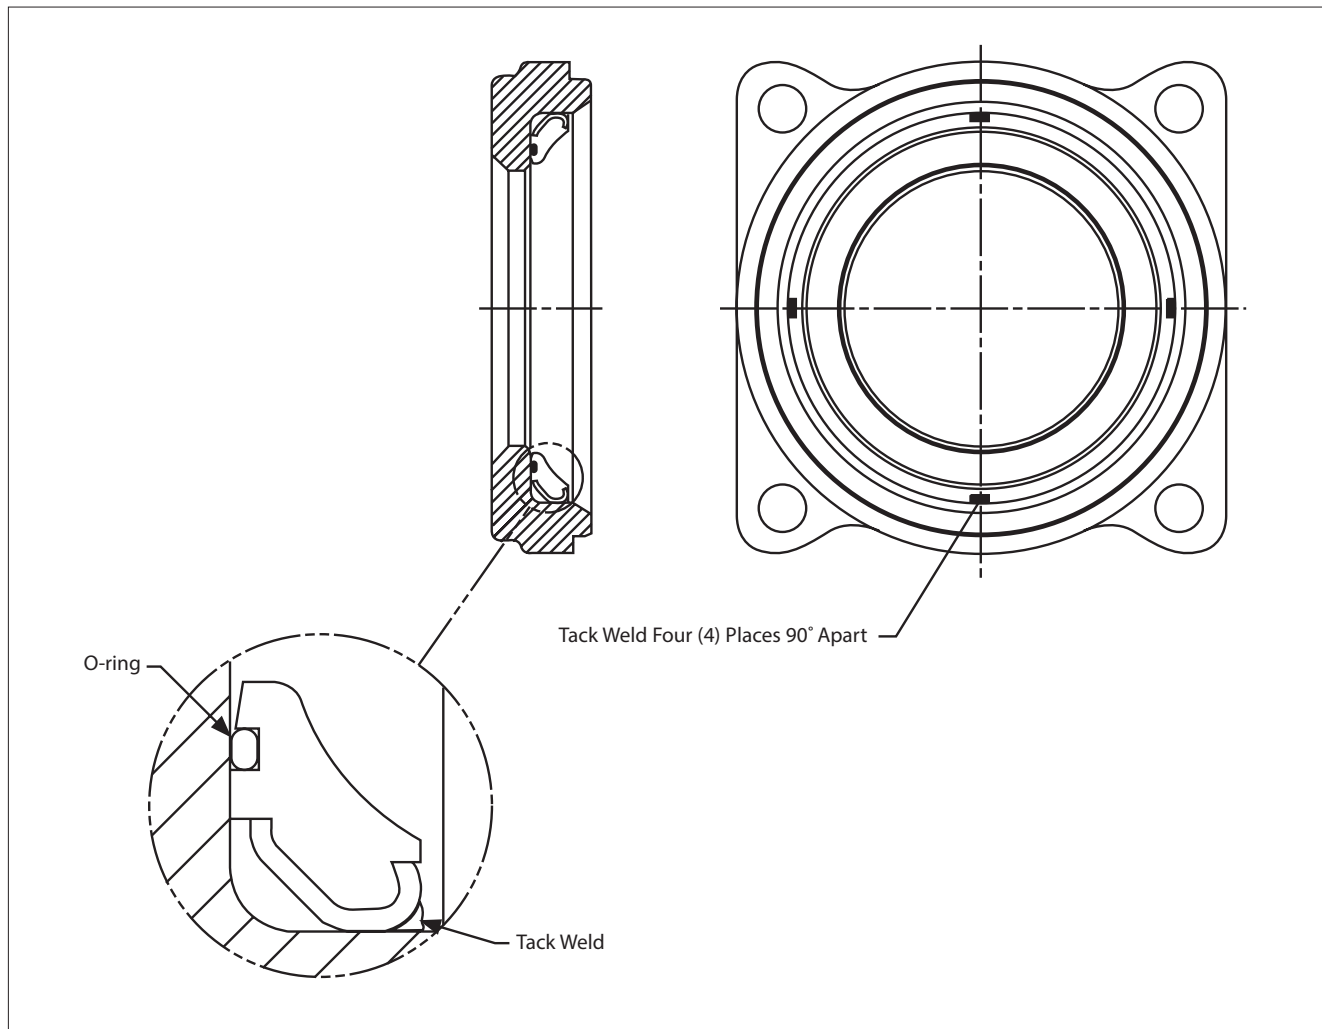

Figure 1.
1. Place the O-ring (29) into the groove in the back of the seat. Use silicone grease to hold the O-ring in place.
2. Clamp the seat firmly in the body cap seat cavity as shown in **(Figure 1)**.
3. Tack weld the seat in the body cap seat cavity, as shown in **(Figure 1)**, with four (4) welds 1/4" (6.35 mm) long using 308L weld rod. **DO NOT EXCEED 300°F (282.2°C) AT WELDS.**